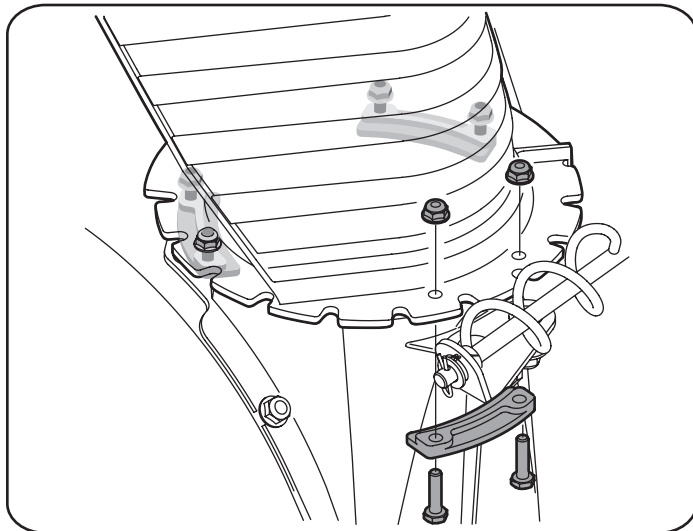

Figure 5
- Secure flange keeper removed earlier with lock nuts and screws. Tighten down nuts securing the other two flange keepers. See Fig. 5.